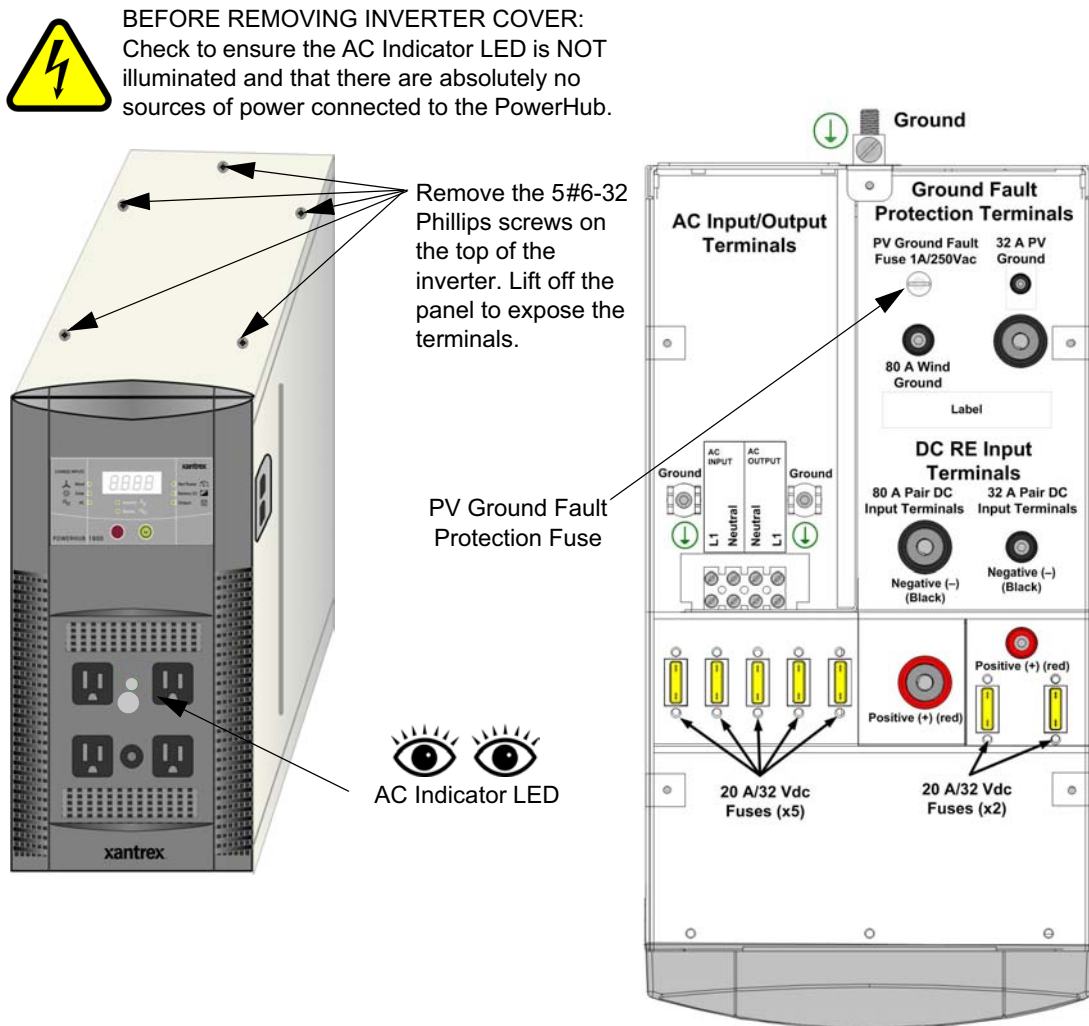

Figure 18 Replacing Ground Fault Protection Fuse
Ground fault protection is required when using either solar or wind renewable energy input. Figure 18 shows the location of the ground fault protection terminals and replaceable fuse.
1. Remove the five Phillips screws on the top of the inverter and lift off the panel to expose the terminals, as shown in Figure 18.